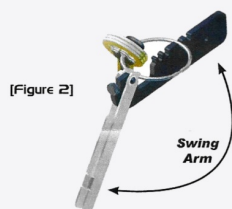

FIGURE 2
- 4 Then swing the arm entirely back, to about 120° (figure 2).